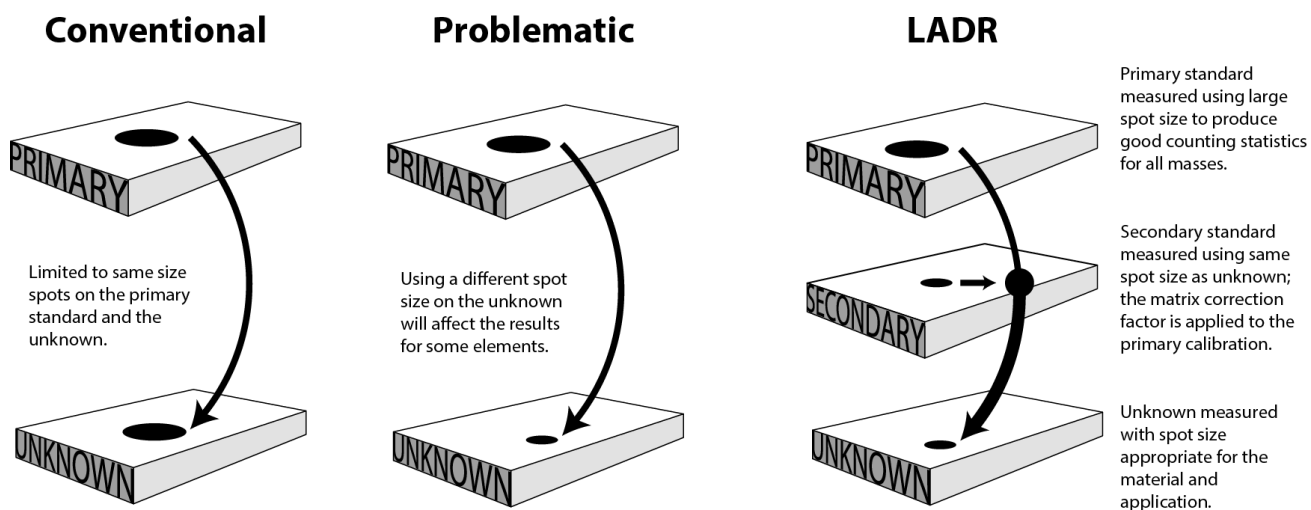

Figure 33: Use of secondary standards to compute matrix correction factors.
**Example:** During an analytical session the same matrix (e.g., the same material, mineral type, etc.) was analysed in the ‘Spot Mode’ (refer to the “Logbook” chapter for a description of different analytical modes supported by LADR) using a range of laser beam sizes (“spot sizes”). Such an approach may be needed when analysing samples with different grain sizes from the matrix of interest so as to avoid using the smallest spot size on all grains. The well-known spot size dependence of the extent of elemental fractionation during LA-ICP-MS would require that analyses performed at different spot sizes are quantified using different calibrations. LADR offers an approach to quantification which allows for all such analyses to be quantified on a single “primary calibration” defined using a single spot size, providing that the secondary RMs have been analysed at the same spot sizes as the unknowns. This involves applying corrections to the primary calibration based on the analyses of the secondary RMs. LADR would automatically match analyses of secondary RMs with analyses of unknowns performed at the same spot sizes using matching masks specified within a QS. See Figure 33.